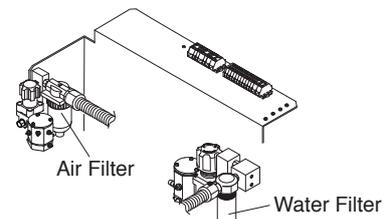

Fig.5-7 Filter
- (7) Filter Replacement (Fig.5-7)